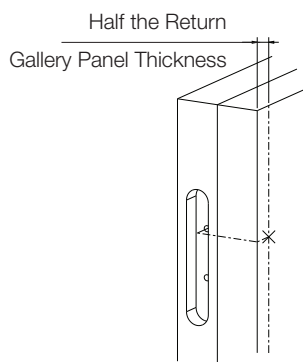

Fig. 6
5. Use a square, align the edge of the square on the drill bit and mark a line across the adjacent gallery panel edge. Transfer this line to the face of the adjacent gallery panel. Using the square set to half the Return gallery panel thickness, mark the centerline (**Fig. 6**)